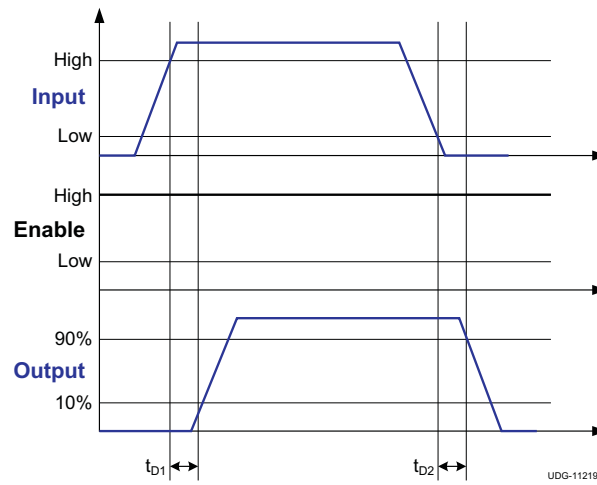

图 2. Non-Inverting Input-Driver Operation
(1) See the timing diagrams in 图 1 and 图 2